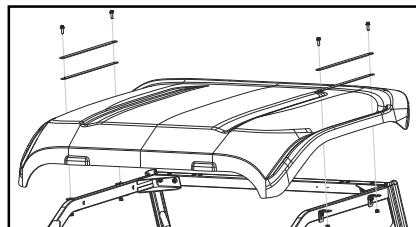
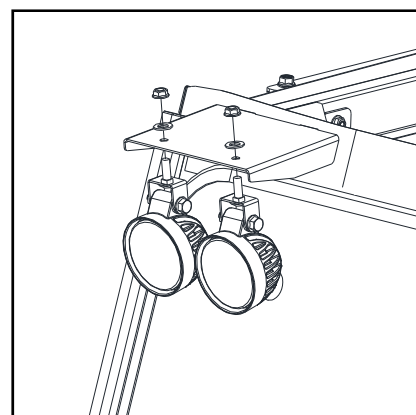

Fig. 1.1a
Fig. 1.1b
1.1 If not done during windshield installation, remove canopy by removing four bolts between mounting brackets and plastic canopy, per Figure 1.1a. Fasten the four (4) work lights to the windshield support, using the supplied hardware and oriented outward as shown in Figure 1.1b. Retain canopy hardware for reuse.